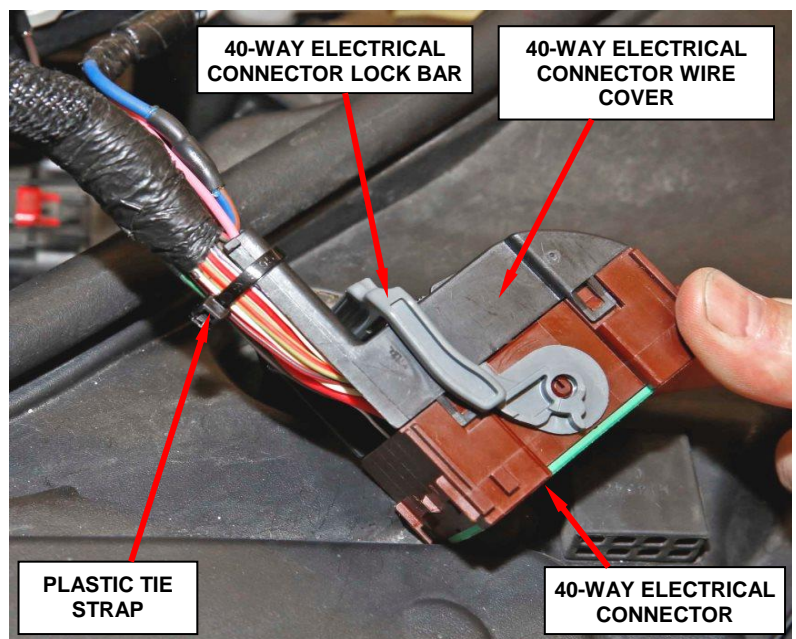

**Figure 22 – Install Pink (with Green Trace) Wire Terminal into the same cavity on the 40-Way Connector from which it was removed**
24. Carefully install the wire terminal for the pink (with green trace) wire back into the same cavity (cavity 38) in the 40-way electrical connector that it was removed from (Figure 22).